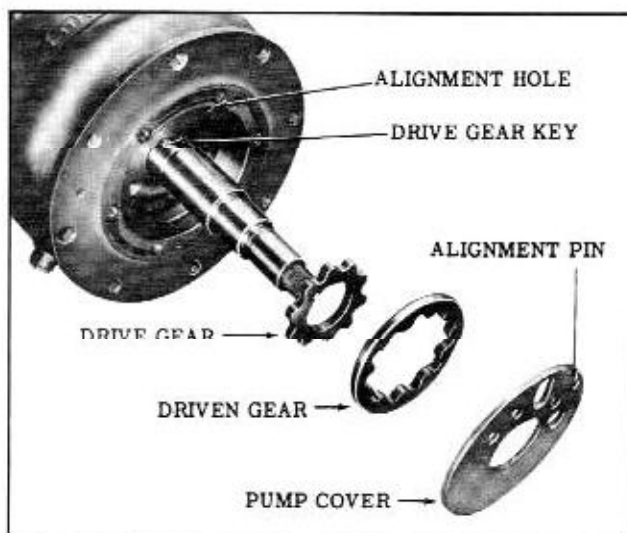

Fig. 14-38 Oil Pump Assembly
8. Remove oil pump plate and gears for inspection. (Fig. 14-38)